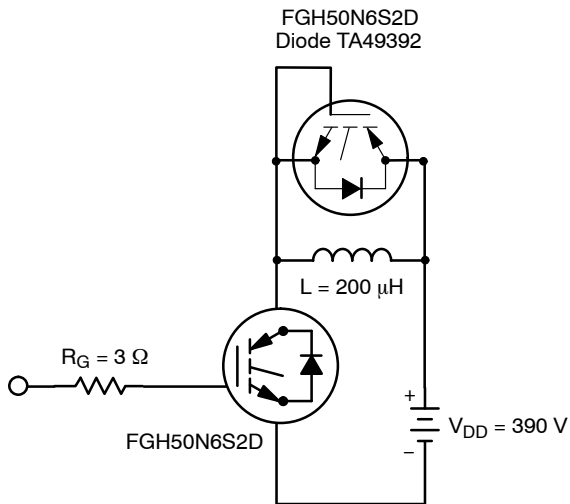

Figure 26. Inductive Switching Test Circuit
2. Values for two Turn-On loss conditions are shown for the convenience of the circuit designer. E_{ON1} is the turn-on loss of the IGBT only. E_{ON2} is the turn-on loss when a typical diode is used in the test circuit and the diode is at the same T_J as the IGBT. The diode type is specified in Figure 26.